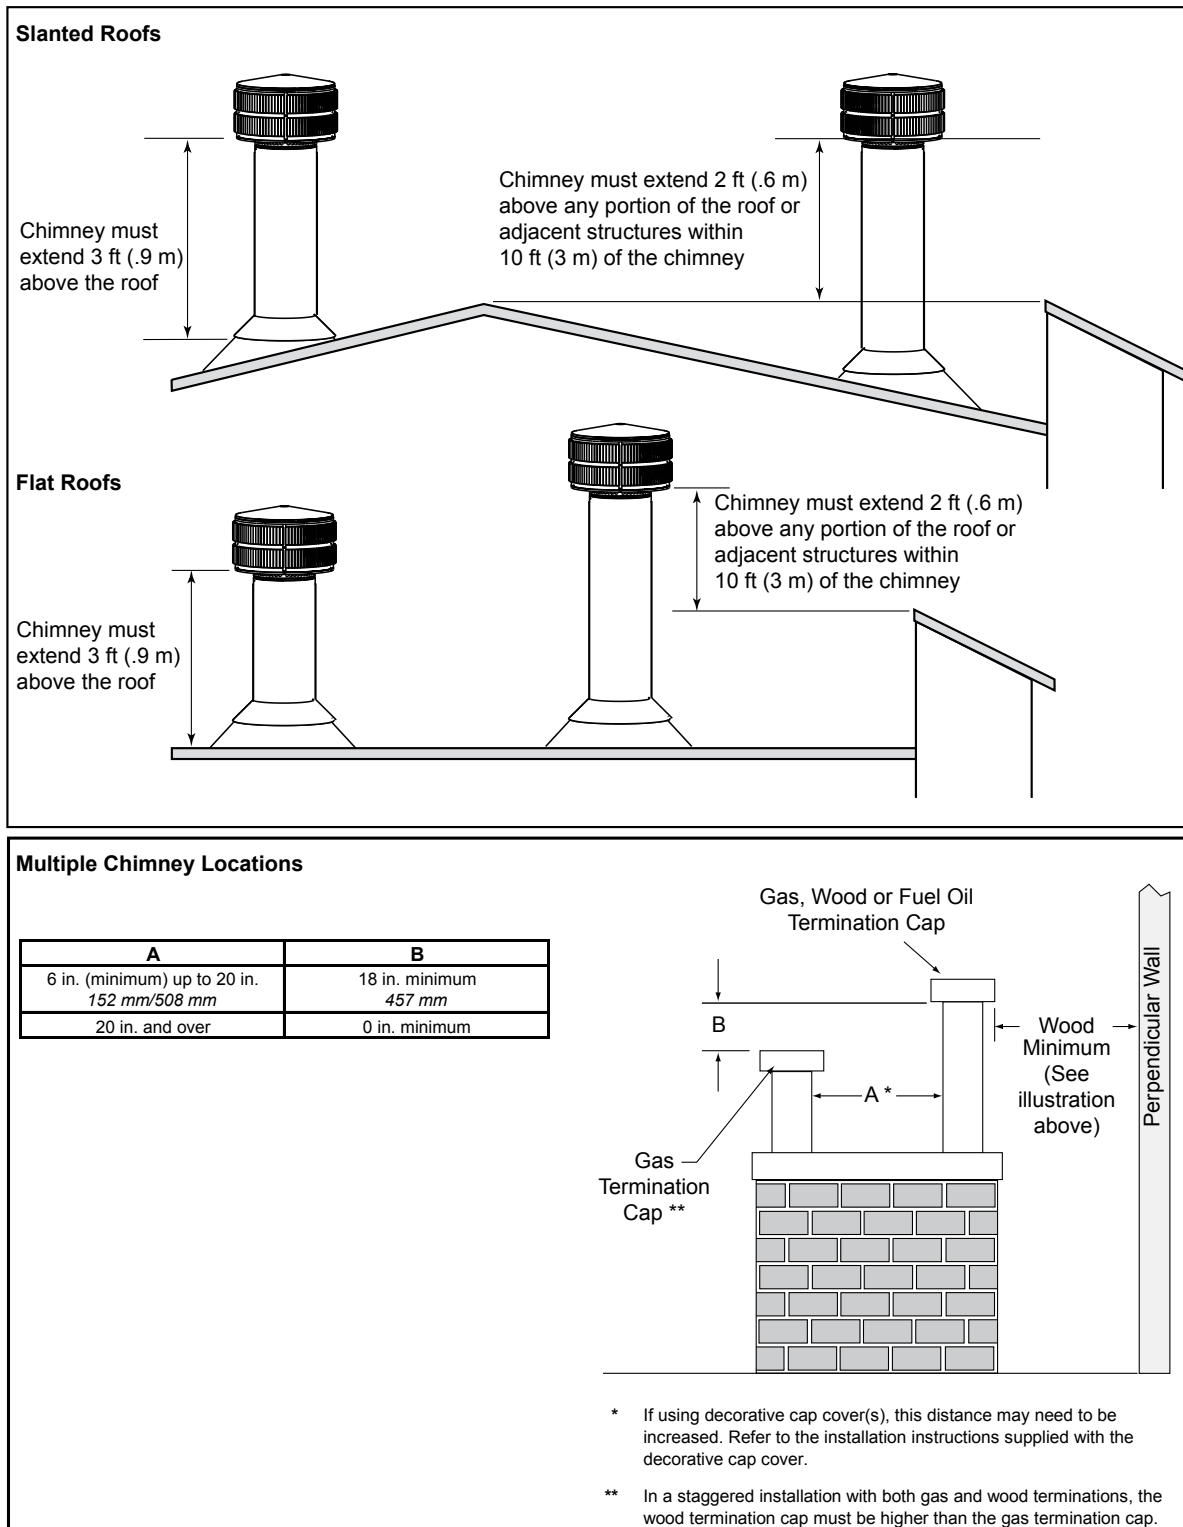

Figure 8.10 Multiple Chimney Locations
- The bottom of the termination cap must be at least 3 ft (.91 m) above the roof AND at least 2 ft (.61 m) above any portion of roof within 10 ft (3.05 m) as shown in Figure 8.10.
- The distance required between caps is shown in Figure 8.10.